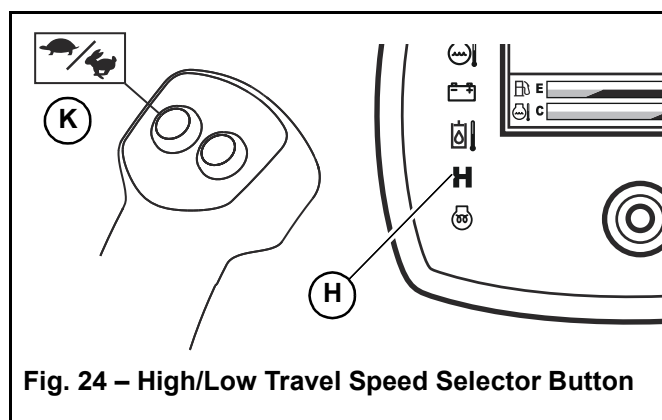

Fig. 24 – High/Low Travel Speed Selector Button
Pressing the speed range select button (K, Fig 24) on the left control joystick toggles between the two speed ranges. Indicator (H) is lit when the high-speed travel range is selected; indicator (H) goes out when low-speed range is selected.